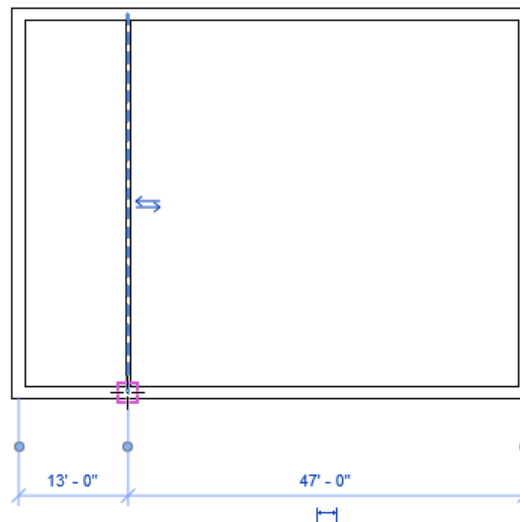

Figure 3-82 Straight wall created till the lower exterior wall
2. Press SHIFT and move the cursor downward. You will notice that the cursor moves parallel to the vertical axis while moving it downward. Click near the lower exterior wall, as shown in Figure 3-82 when the **Vertical and Nearest** symbol appears.